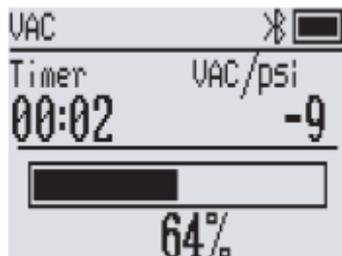

Figure 7 Vacuum test interface
❶ The high-voltage side channel is the vacuum test port of the system.
❶ When the pressure in the system is lower than the atmospheric pressure (that is, the pressure display is less than 0), it will display the vacuum degree of the system, otherwise it will display - - - -.
5.The interface (Fig. 7 ) displays the current pressure value of the system, the vacuum degree of the system and the timing of entering this interface.